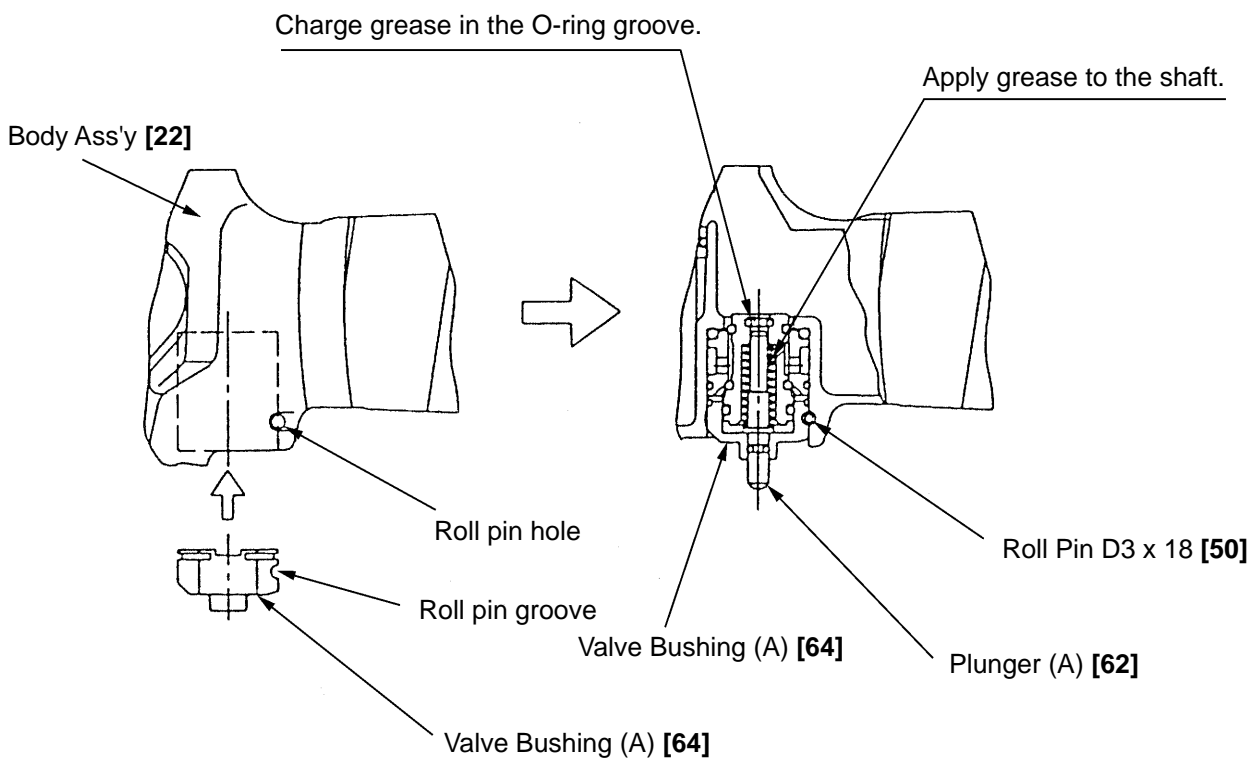

Fig. 9
- Apply enough lubricant to Plunger (A) [62], the O-ring [63] and the O-rings [57], [58], [60] of Valve Piston (B) [59].
- Fit Valve Bushing (A) [64] into the Body Ass'y [22] so that its roll pin groove is aligned with the roll pin hole of the Body Ass'y [22] as illustrated in Fig.9. First insert a roll pin puller (3 mm dia.) and hammer in the Roll Pin D3 x 18 [50] after making sure that it can pass through the roll pin hole.